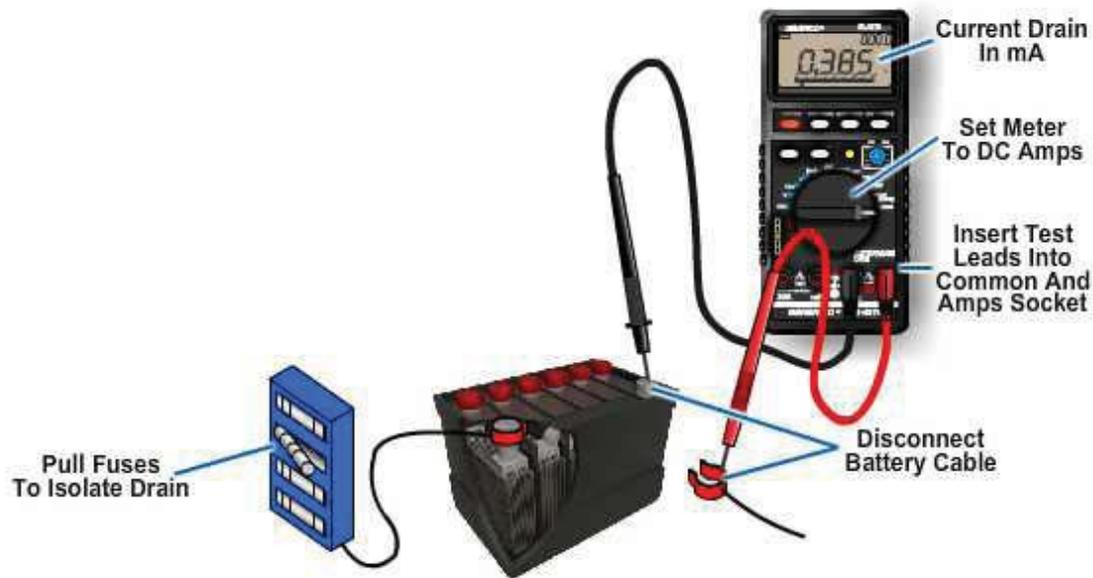

Figure 6-21 – Battery drain test.
4. Attach the ammeter, as shown in *Figure 6-21*.